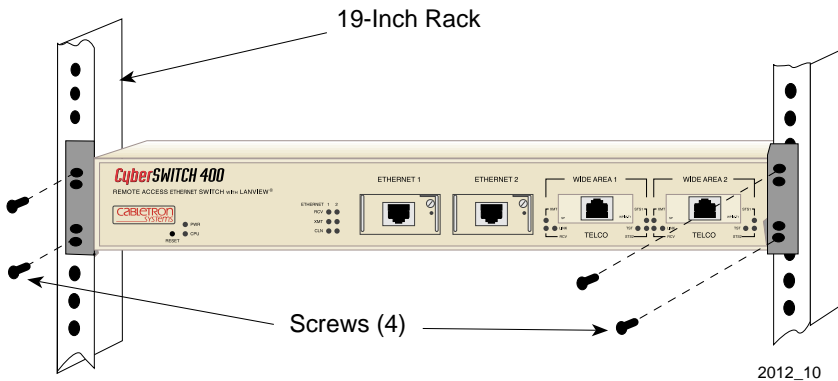

Figure 19 Installing the CSX400 and CSX400-DC in a Rack
- Fasten the CSX400 with mounting screws as shown in **Figure 19**.
6. Fasten the CSX400-DC with thread-forming screws as shown in **Figure 19**.